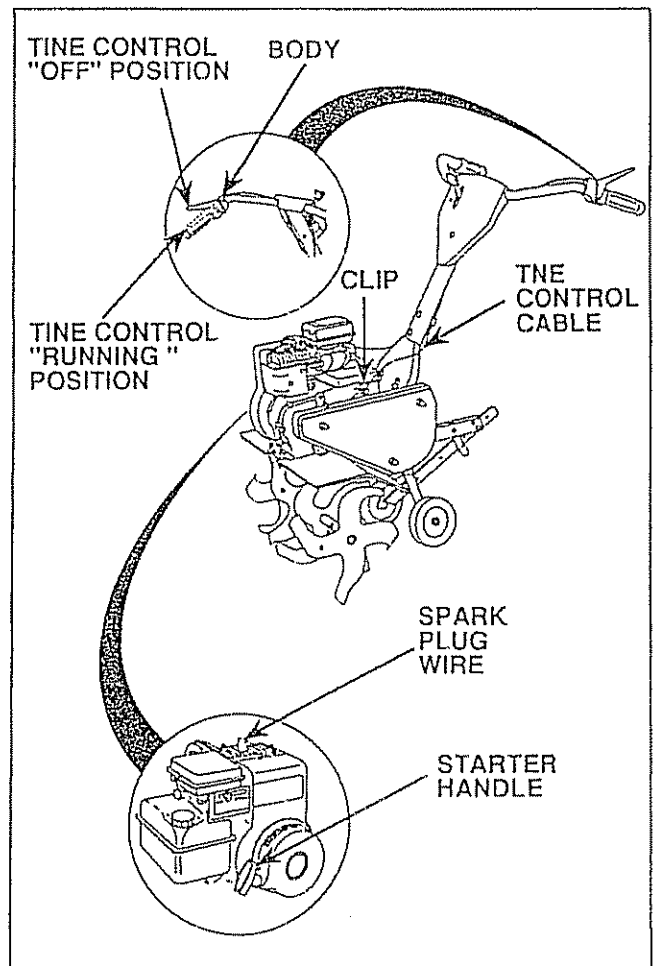

FIGURE 25
- With Tine Control in "OFF" (UP) position, Tine Control Lever should be against Tine Control Body (Fig. 25) If not, loosen Clip and pull Tine Control Cable up. Retighten Clip. If adjustments are made, make sure Tines do not rotate when Tine Control is in "OFF" position. See next step.
- With Tine Control in "OFF" (UP) position, push Tiller Handles down so Tines clear the ground. Pull Starter Handle. Tines should not rotate. If they do, loosen Clip and push Tine Control Cable down. Retighten Clip and test. Readjust if necessary.